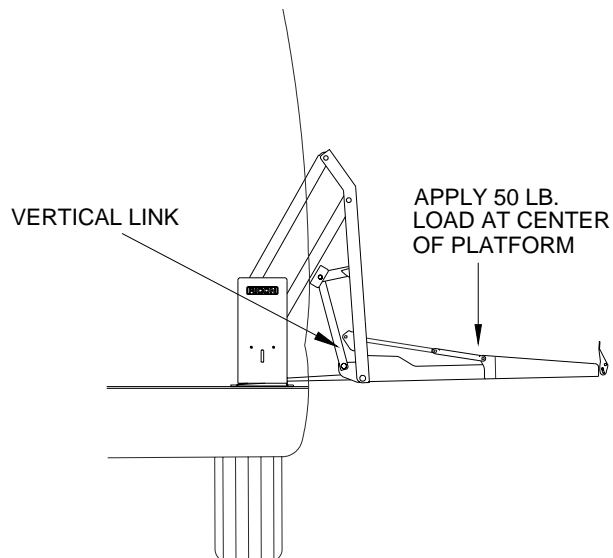

FIGURE 2-17: PRESSURE SWITCH TEST AT FLOOR LEVEL
- a. Refer to **Figure 2-17**. Deploy and lower platform to ground. Place a 50 lb. load in center of platform and then raise platform to floor level. Press and hold STOW switch.